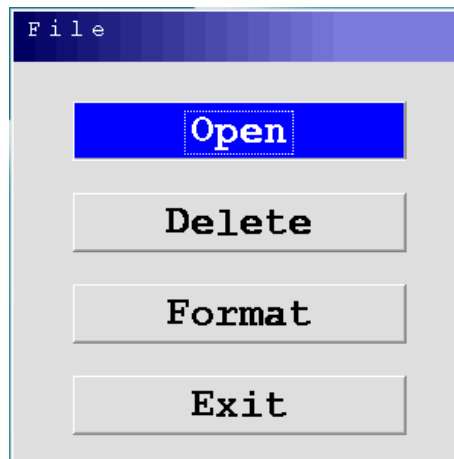

Fig. 5.8 The menu «File»
5. "File" - the menu "File" (a Fig. 5.8) with which help it is possible: to open for viewing the kept file (button click to "Open" the list of the kept files opens, the chosen file opens for viewing). To remove not the necessary saved file (button click to "Remove" the list of the saved files opens, the chosen file will be removed). The option to "Format" is applied in case of failure in the GPR-Detector program when it is not possible to open saved files, after formatting there is a removal of all files.